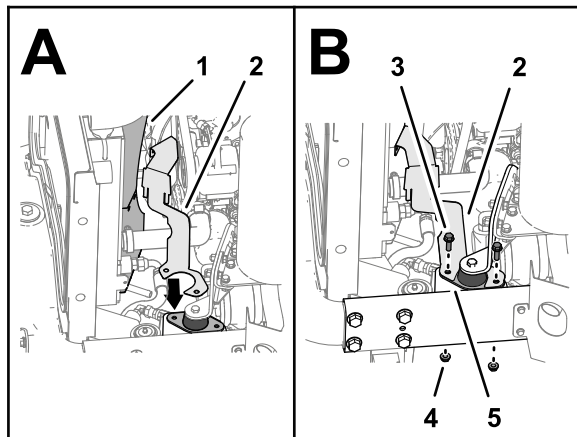

Figure 42
- Align the holes in the coolant reservoir bracket with the holes in the top and bottom fan shrouds, and the holes in the engine mount (Figure 42).
- Loosely assemble the coolant reservoir bracket to the engine mount (Figure 42) with the 2 flange-head screws (5/16 x 1 inch) and 2 serrated-flange nuts (5/16 inch) that you removed in step 1.